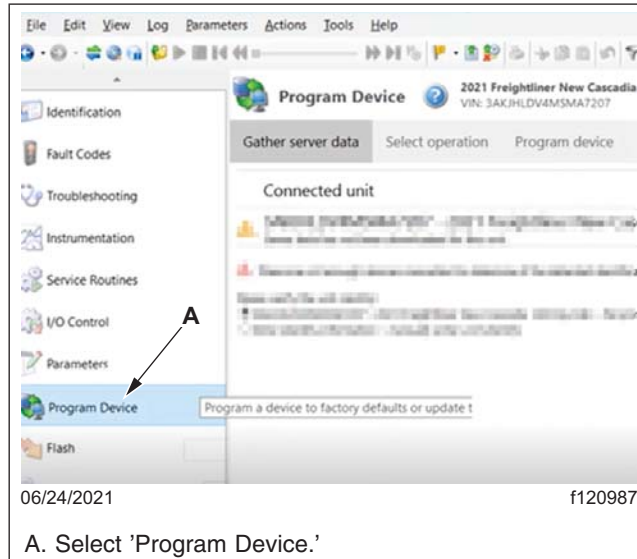

Fig. 7, Selecting Program Device
3. Select 'Program Device' on the left-hand part of the window. See Fig. 7.
- 10.3 To program an ECU, select 'Program Device' on the left-hand part of the window. See Fig. 7.